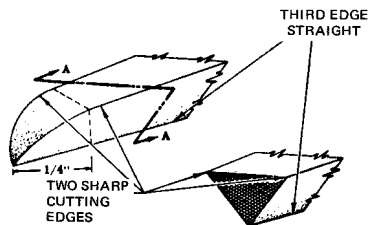

FIGURE 18. Rounding Off Gaff Point
- b. Use an approved mill file and work with short strokes. File from the heel toward the point to sharpen the cutting edges. The point of the gaff should then be rounded back approximately 1/4 of an inch. See Figure 18.